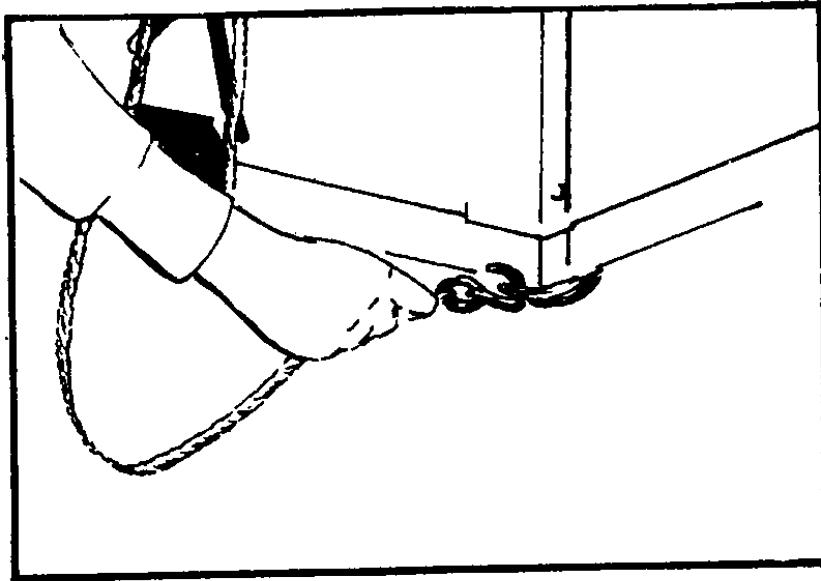

Figure 7
12. Attach the hook of each guy rope to the attachment loop at the bottom corners of the rear frame member (see Figure 7) and